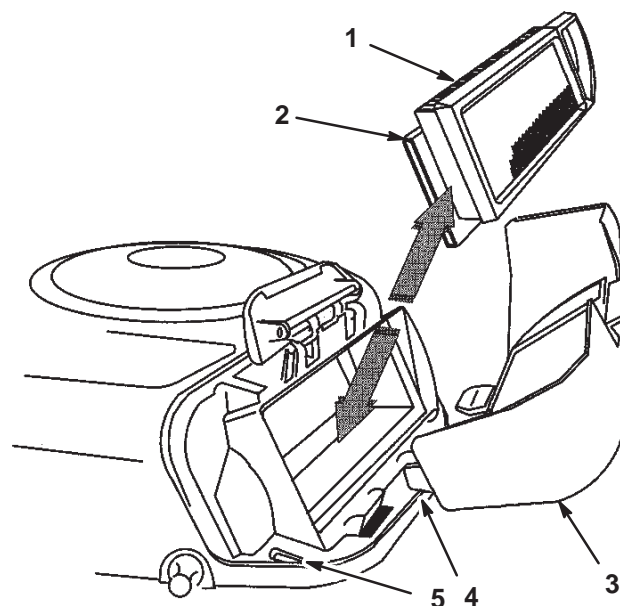

Figure 22
- Carefully slide the paper element and foam element from the blower housing (Fig. 22).
2. Align the tabs on the air cleaner cover with the slots of the blower housing (Fig. 22).